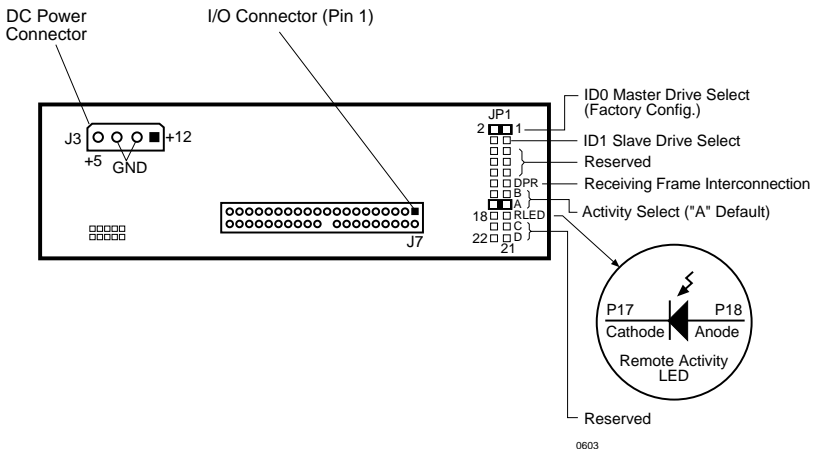

Figure 4: Receiving Frame Rear Panel (Motherboard)
6. To connect the drive to a Remote Activity LED in the computer system, connect the appropriate cable(s) to the receiving frame rear panel as shown in Figure 4. Connect JP1 Pins 17 & 18 to a remote activity LED.
7. Connect the I/O cable from the host adapter to the receiving frame. The Pin 1 indicator on the cable must be properly aligned. Refer to Figure 4 for the correct Pin 1 location.
8. Connect the power cable from the DC power supply in the computer chassis to the power connector on the DE75i-A receiving frame. Refer to Figure 4 for the receiving frame power connector location.